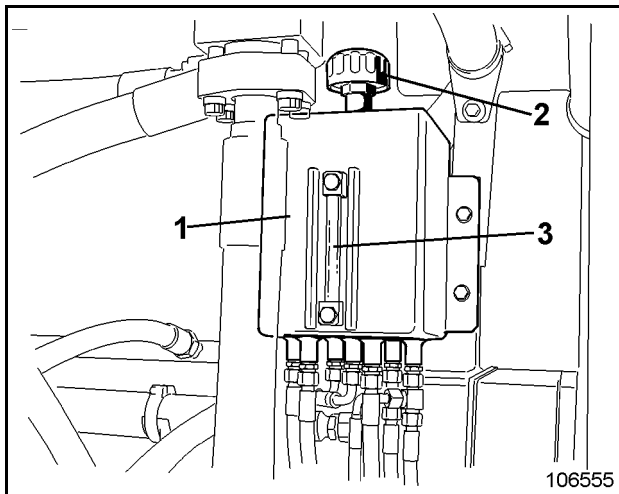

Fig. 3-71
The oil level in the pre-chambers is visually at the inspection glass (3, Fig. 3-71) in expansion reservoir (1).